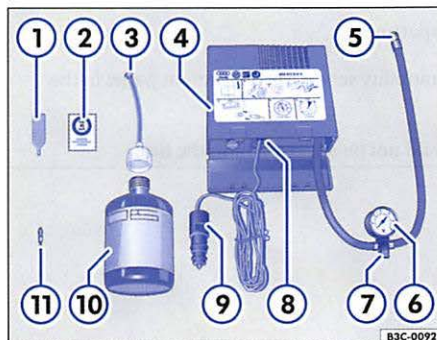

Fig. 187 Basic diagram: Contents of the tire mobility set.
The tire mobility set is stored in the luggage compartment under the floor covering. It contains the following → fig. 187:
3. Automatic transmission: Shift the transmission into Park (P) ⇒ page 179.
12. Affix the label ⇒ page 337, fig. 187 ② from the tire mobility set on the instrument panel in the driver's field of vision.
- Unscrew the valve core from the tire valve using the valve core wrench $\Rightarrow$ page 337, fig. 187  and place it on a clean surface.
- Vigorously shake the tire inflation cylinder $\Rightarrow$ page 337, fig. 187  a few times back and forth.
- Tightly screw the filling hose $\Rightarrow$ page 337, fig. 187  to the tire inflation bottle (turn clockwise). The foil on the seal is automatically pierced.
- Remove the sealing plug from the filling hose $\Rightarrow$ page 337, fig. 187  and slide the open end all the way onto the tire valve.
- Using the valve core wrench $\Rightarrow$ page 337, fig. 187  screw the valve core back into the tire valve.
- Screw the tire inflation hose $\Rightarrow$ page 337, fig. 187  of the air compressor tightly to the tire valve.
- Check whether the air release valve $\Rightarrow$ page 337, fig. 187  is screwed on tightly.
- Insert the cable plug $\Rightarrow$ page 337, fig. 187  into a 12-volt socket of the vehicle $\Rightarrow$ page 170.
- Switch the air compressor on using the ON/OFF switch $\Rightarrow$ page 337, fig. 187 .
Connect the tire inflation hose ⇒ page 337, fig. 187